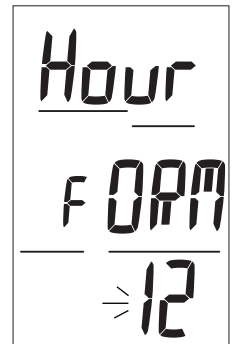

Fig. 38 - Set HOUR FORMAT
**Set Hour Format**, information includes (Fig. 38):